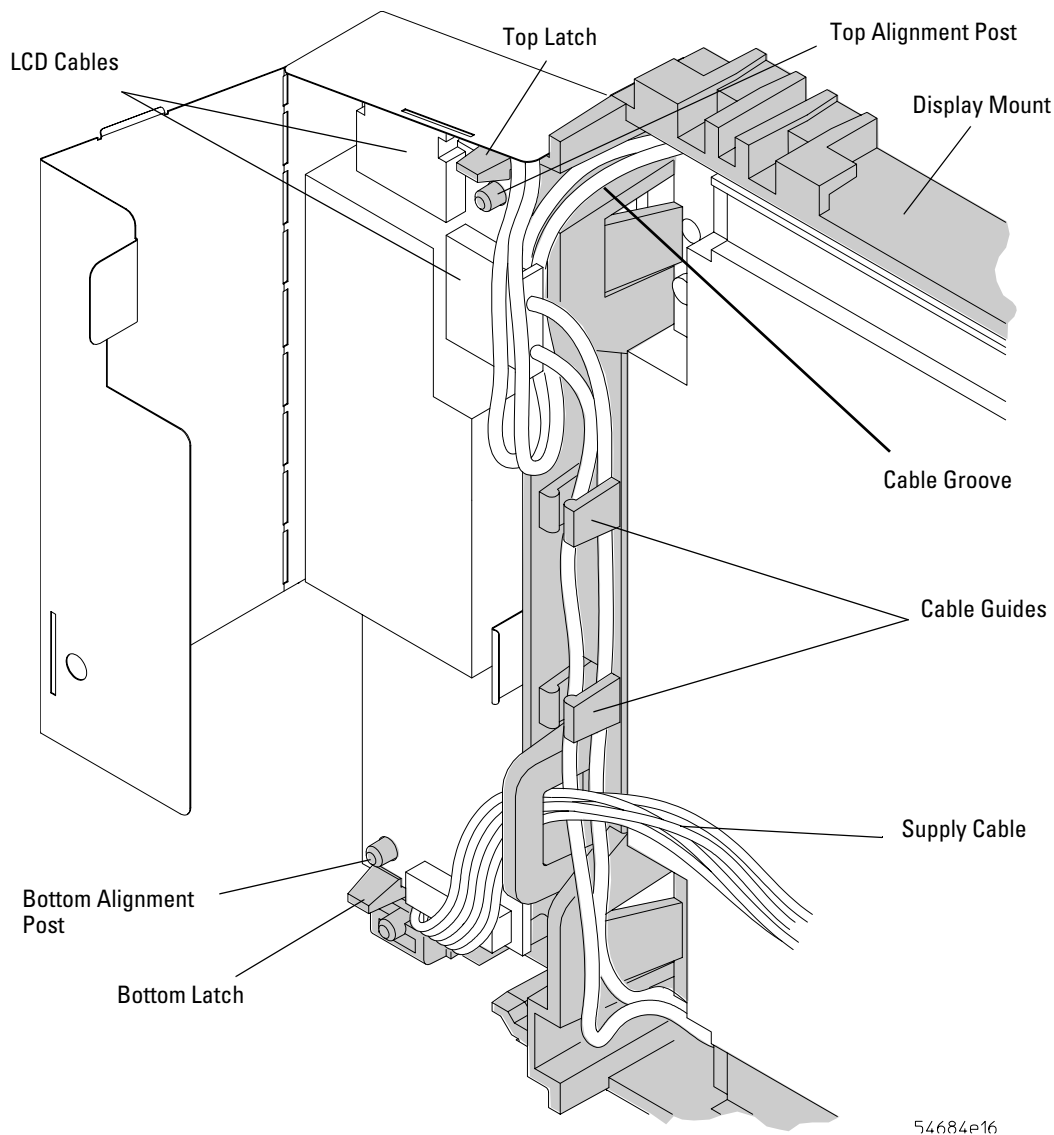

Figure 28 Removing the backlight inverter
- a Reconnect the LCD cables looping them around each other and through the cable guides as shown in Figure 28.
- c Align the holes in the inverter board with the posts on the display mount and push down until the latches snap over the board (refer to Figure 28).